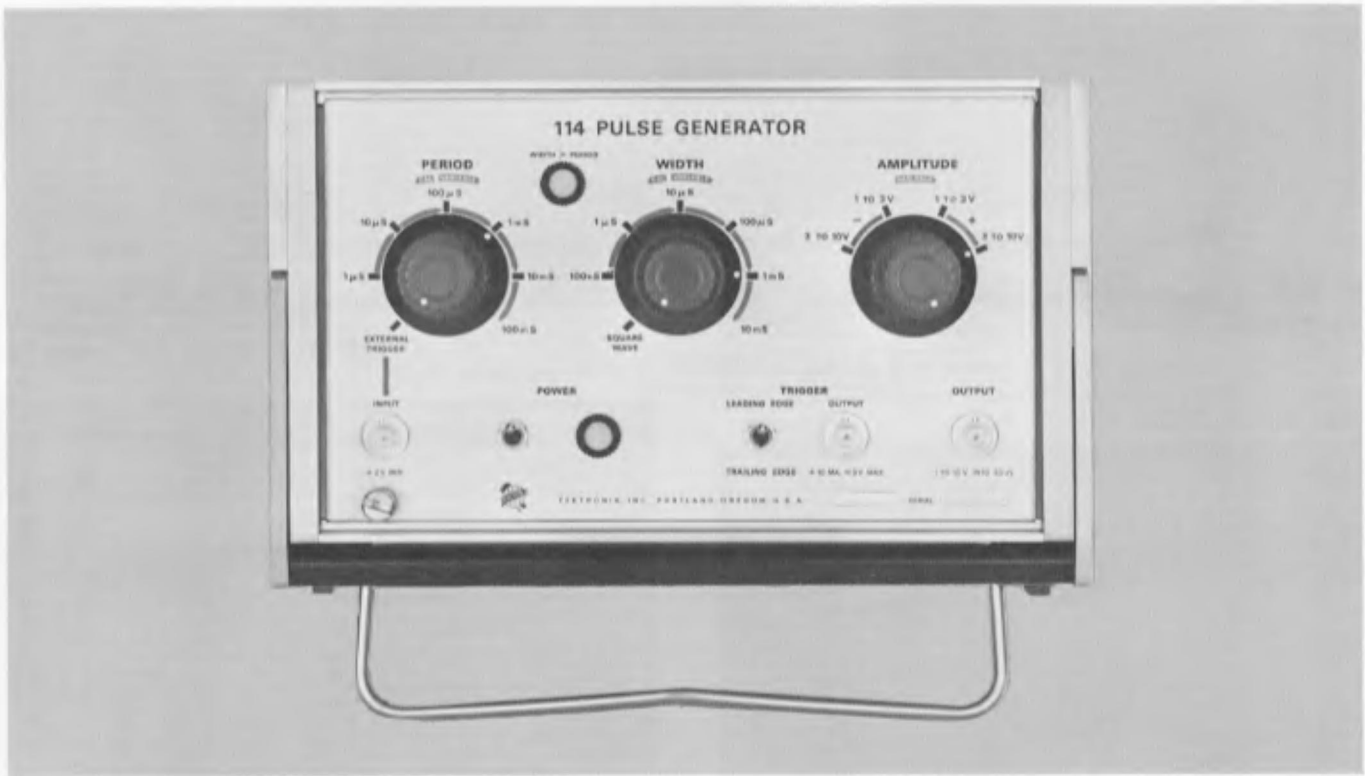
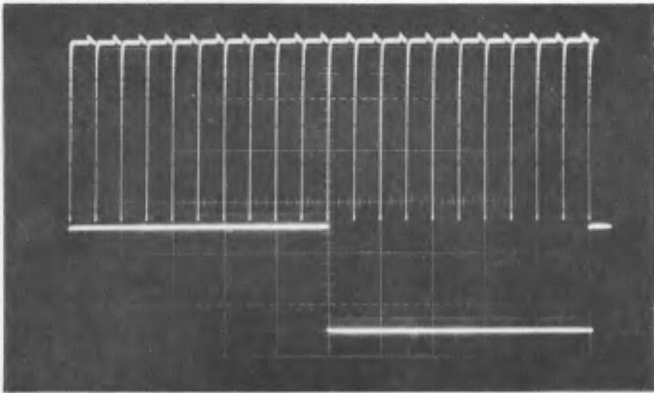

Fig. 4-11. Control settings for adjusting WIDTH CAL control R180.
Fig. 4-12. Crt display showing correct adjustment of WIDTH CAL control R180.
- c. Set the Type 547 TIME/CM (B) to .1 SEC.
- a. Set the Type 114 PERIOD and WIDTH controls to 1 mS and turn both VARIABLE controls to CAL (see Fig. 4-11).
- d. Set the Type 547 TIME/CM (B) to .2 mSEC and adjust the TRIGGERING LEVEL control for a stable display.
- e. Use the Type 1A1 POSITION controls to obtain the display shown in Fig. 4-12.
d. Set the Type 547 TIME/CM (B) to .2 mSEC, the TRIGGERING SLOPE switch to +, and adjust the TRIGGERING LEVEL control for a stable display.
e. Slowly rotate the WIDTH — VARIABLE control clockwise. Check for a pulse width of at least 1 millisecond (ten 100 microsecond markers) at the clockwise end of rotation (see Fig. 4-12).